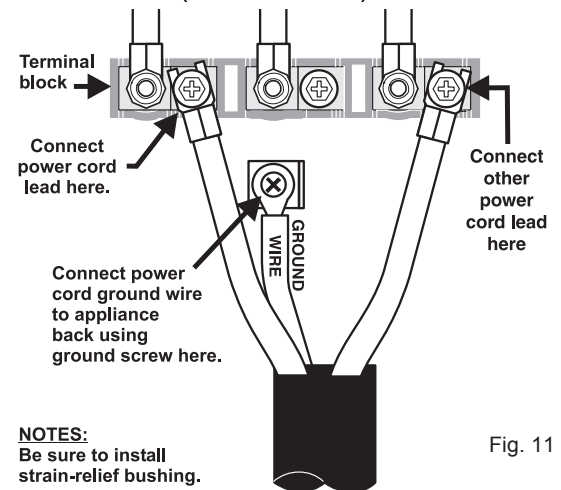

Fig. 11
- Attach the 2 power cord line connections and tighten securely to the terminal block (See Fig. 11).
- Attach the power cord ground connection using the supplied grounding plate and grounding screw to the appliance back marked "GROUND" (See Fig. 11).